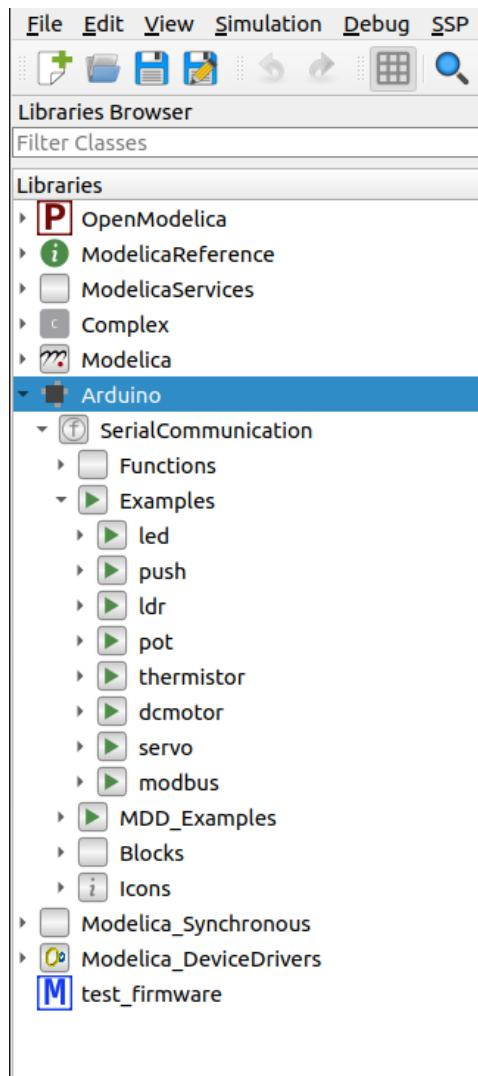

Figure 3.43: Examples provided in OpenModelica-Arduino Toolbox
5. Now, we will locate the models for running the experiments in the upcoming chapters. Under Libraries Browser, click on the arrow before Arduino to see the contents inside this package. Next go to SerialCommunication -> Examples. Under Examples, you will find the list of experiments like led, push, etc., as shown in Fig. 3.43.